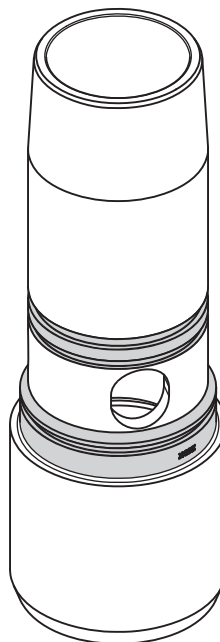

Figure 2
- 5.) Inspect the areas highlighted on the tubing drain body (see Figure 2).